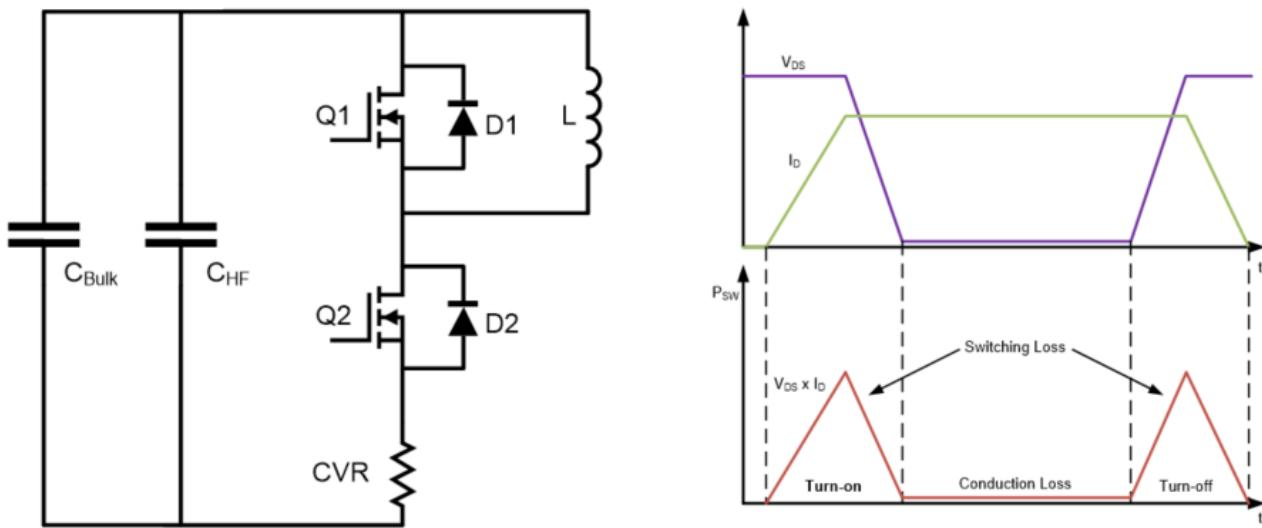
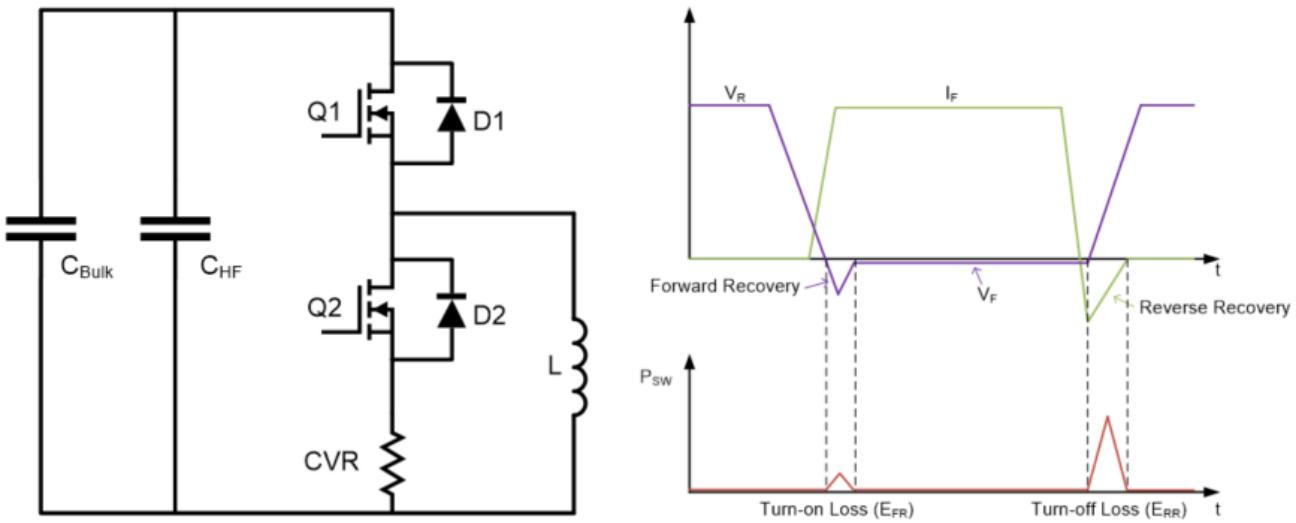

Figure 2 CIL Test Fixture Used to Measure the Switching Loss of MOSFET Q2
Figure 3 CIL Test Fixture Used to Measure the Switching Loss of Body Diode D2
There are two types of switching events: actively switched (MOSFET) and forced commutated (body diode). The test fixtures to measure both events are given below in Figure 2 and Figure 3, respectively. Q1 and Q2 represent the respective switch positions of the Wolfspeed WolfPACK half-bridge power module. Likewise, D1 and D2 represent the intrinsic body diodes of each switch position since there are no external Schottky diodes. For both tests, film capacitors (C_{Bulk}) are used for bulk energy storage to provide the needed energy transfer to the inductor (L) for the switching event, while high-frequency ceramic capacitors (C_{HF}) are used to provide a low-inductance switching loop. For MOSFET switching measurements in Figure 2, the inductor is connected across the upper switch position of the module from the midpoint to the positive bus rail while Q1 is held off and Q2 is pulsed; for body diode switching measurements in Figure 3, the inductor is connected across the lower switch position of the module to the negative bus rail while Q1 is pulsed and Q2 is held off.